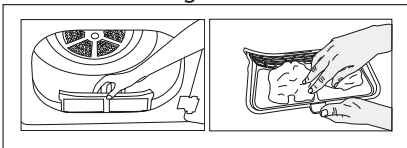

Figure 2
b) If the product's lint filter is as shown in Figure 2, remove the filter by pulling it up.